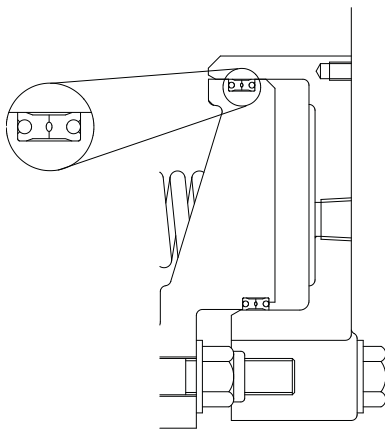

Figure 16 : Lip seal installation
- 4.6.4 Insert new seals into the grooves, noting the orientation of the seals per **Figure 16**.
- 4.9.12 Lubricate the seals (21)(23) with Dow Corning 55 O-ring lubricant and install them into the seal grooves on the spring housing (16). Note the orientation of the seal lips per **Figure 16**.